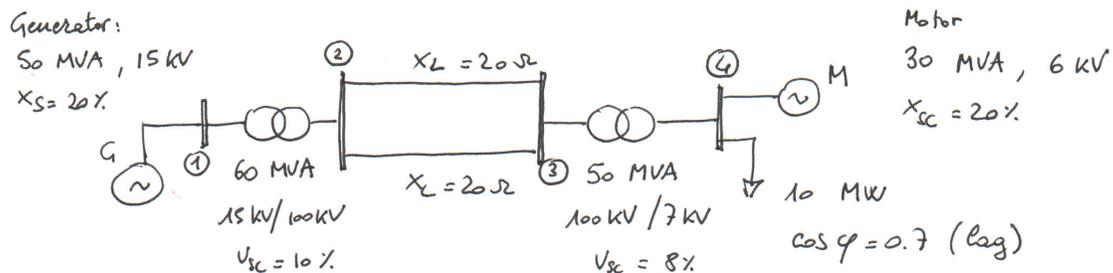

Figure E.4
E.4. Determine the single-phase equivalent circuit of the three-phase system shown in Figure E.4, using the following bases: